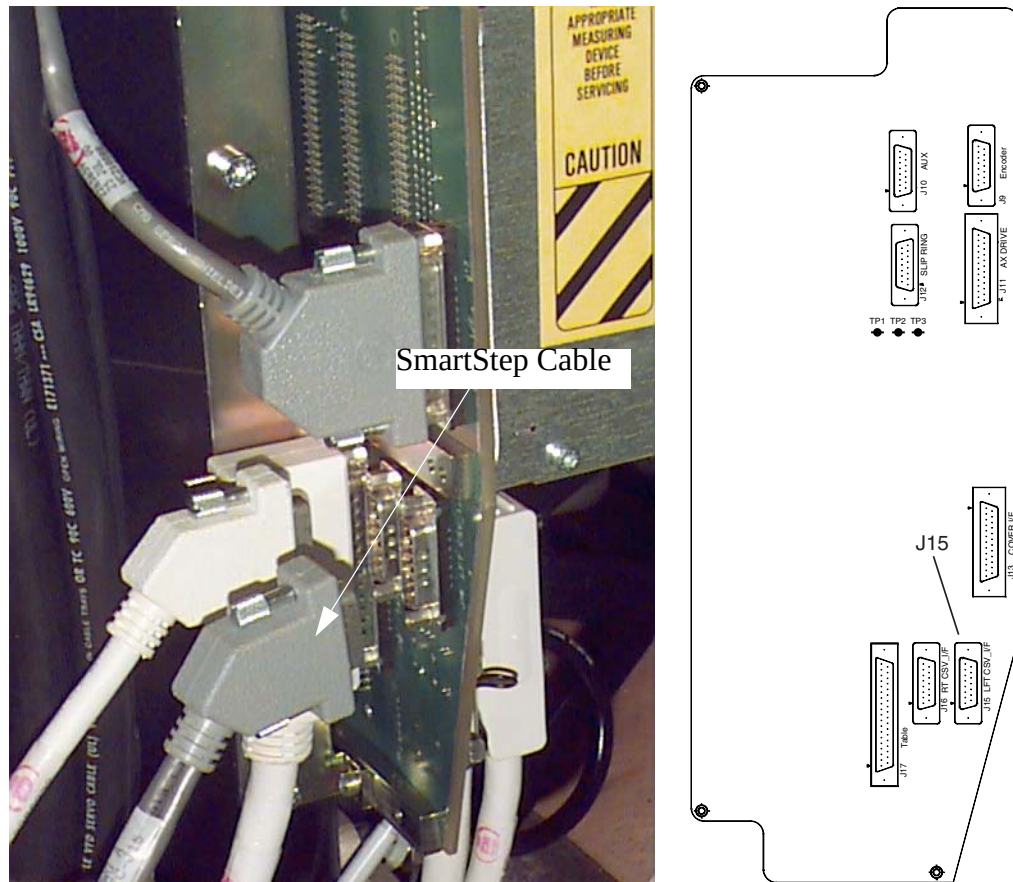

Figure 2-9 Locating connectors J15 (grey) on STC backplane
- 1.) Connect SmartStep cable to J15 on the STC backplane. Refer to Figure 2-9, for locating J15.